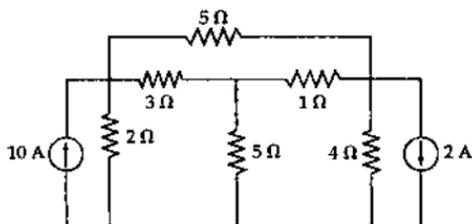

Fig. 2.0
- (b) Use nodal analysis to find the currents in various resistors of the circuit shown (Fig. 2.0)